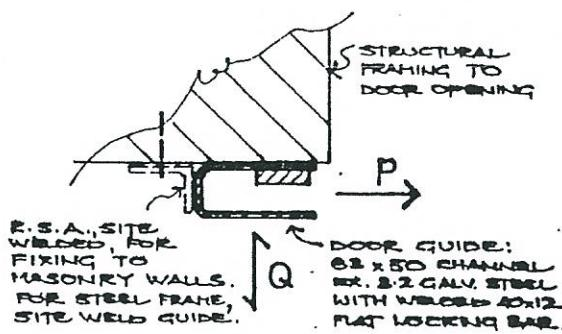

Figure 1. DOOR GUIDE - SECTION DETAIL
5. The table shows working stress loads exerted by the guides on the structural support frame. Figure 1 shows the direction of the forces and the profile of the guide. The sizing of the connections will depend on the detail of the structure, and should be specified by the Structural Design Engineer.